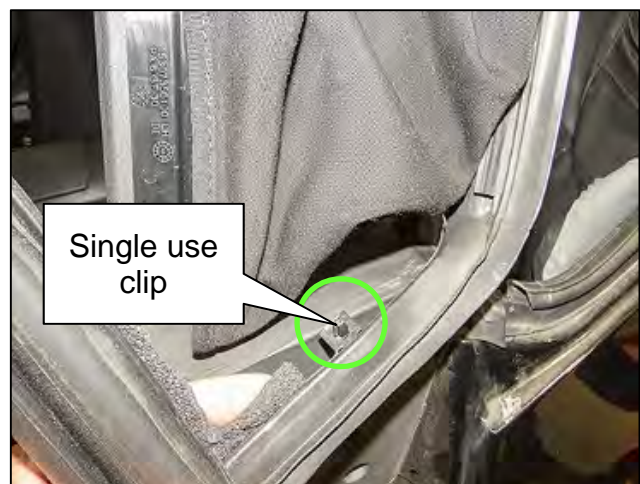

Figure 72
79. Unclip the single use clip (Figure 72).